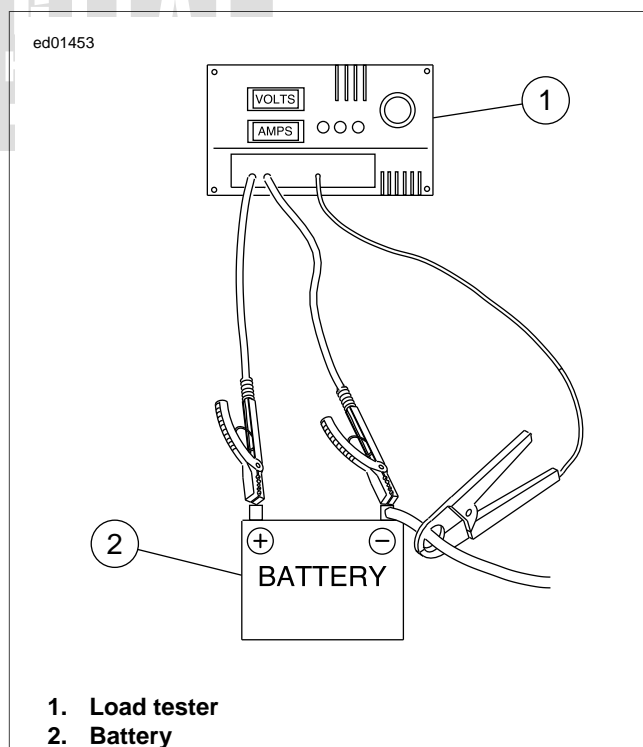

Figure 1-21. Check Current Draw (Ignition Switch On)
- See Figure 1-21. To check for this condition, place load tester induction pickup or current probe pickup over battery negative cable.